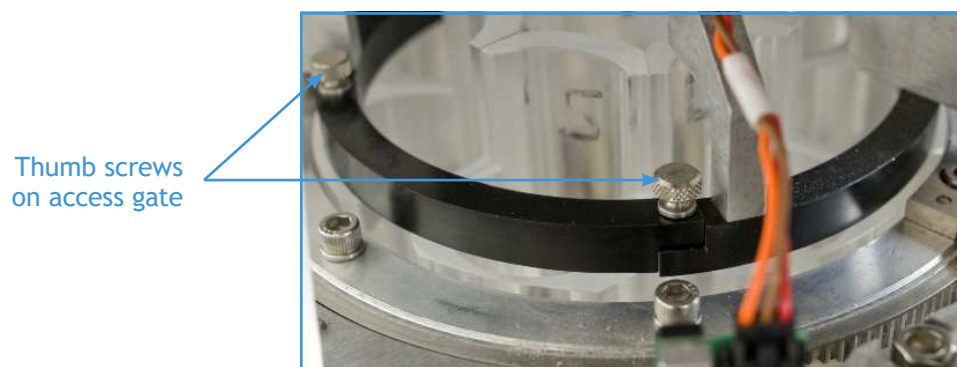

Figure 1-17: Carousel access gate
3. Remove the carousel access gate. Unthread the two thumb screws located at the ends of the gate and remove gate. See Figure 1-17.